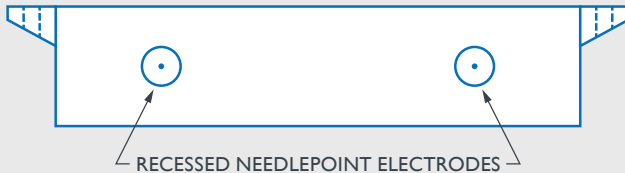

FIGURE 1
3. Mount the unit at or near the fan inlet using the slots in the mounting tabs, insuring that air flows over the two recessed needlepoint electrodes simultaneously. Short sheet metal screws should be used to mount the ionizer to the fan casing. See Figures 1 & 2.